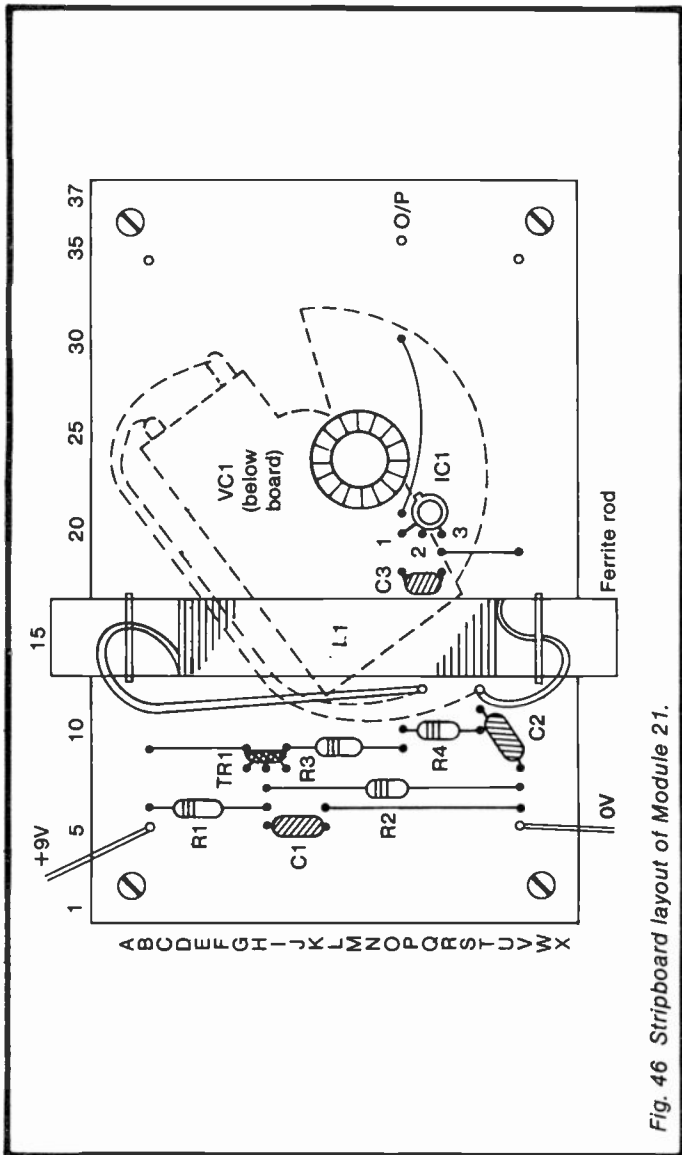

Fig. 46 Stripboard layout of Module 21.
*Stripboard layout:* see Figure 46. First drill a hole, 9.5mm diameter and centred at N24, to take the bush of VC1. Drill four holes at the corners for mounting the board. Wrap a layer of Sellotape around the central region of the ferrite rod. On this wind about 85 turns of enamelled wire in a single layer, adjacent turns touching but not overlapping. Secure the ends of the coil with Sellotape. Bind the rod to the board with two loops of insulated wire, soldered in the holes at B13/B16 and W13/W16; pulling the wire tight while it is being soldered. Solder the ends of the coil to the two double-sided terminal pins above the board at Q12 and T12. Wires to VC1 are soldered to these pins below the board. Note that the wire from the pin at T12 goes to the 'earthy' side of the capacitor (i.e. the fixed plates). The plates of VC1 are below the board, with the bush passing up through the hole. A plastic knob is fixed to the spindle of VC1 above the board.